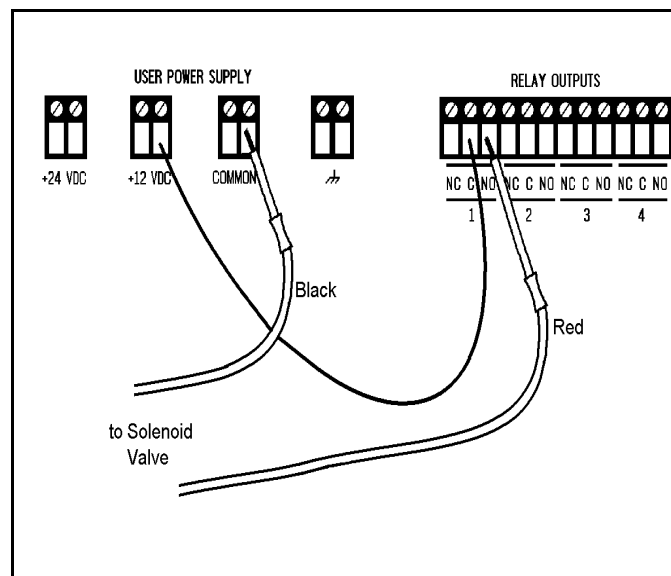

Figure 4-9: Valve—Controller Connections
4. Refer to Figure 4-9.
- Connect the red wire to the normally open (NO) terminal of any unused relay output.
5. Connect 12VDC or 24VDC (in accordance with your valve's specification) to the common (C) terminal of the **same** relay output, as shown in Figure 4-9.